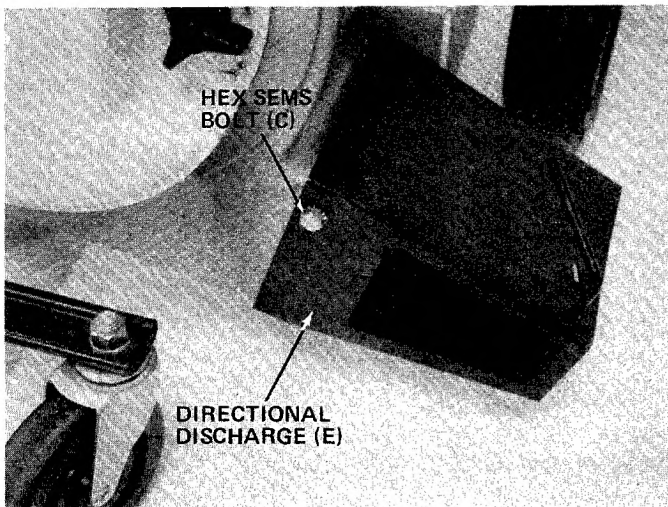

FIGURE 5.
4. Slip end of directional discharge (E) over chute opening. Secure in position with hex sems bolt (C). See figure 5.